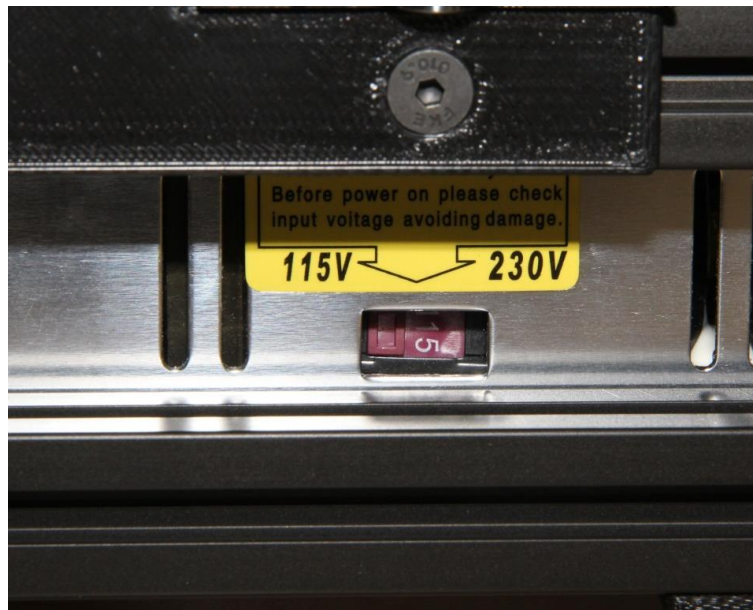

Figure 2.28: Voltage selection of PSU
**Caution:** Before powering up your Artifex 2 3D Printer, check the voltage selection of the Power Supply Unit (PSU) on the bottom left of your Artifex 2 3D Printer, and make sure it matches the voltage supply in your area. (Figure 2.28)